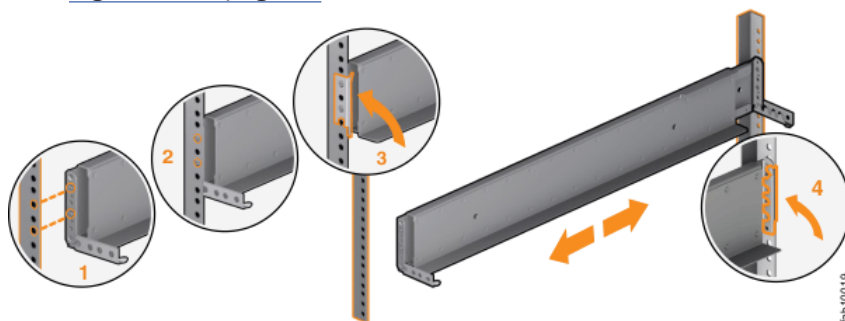

Figure 28. Closing the hinge brackets
9. Close the rear hinge bracket to secure the rail to the rack cabinet flange. (See Figure 28 on page 68.)
11. Close the front hinge bracket to secure the rail to the rack cabinet flange. See Figure 28 on page 68.